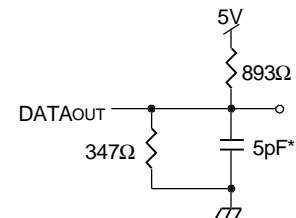

Figure 2. Output Test Load
1. Transition is measured ±200mV from Low or High-Impedance voltage with the Output Test Load (Figure 2)
1. Transition is measured  $\pm 200\text{mV}$  from Low or High-impedance voltage with the Output Test Load (Figure 2).
7. Transition is measured  $\pm 200\text{mV}$  from Low or High-impedance voltage with the Output Test Load (Figure 2). This parameter is guaranteed but is not production tested.